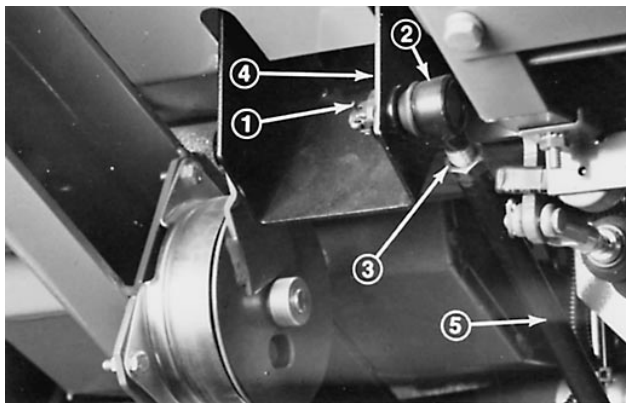

Figure 72
2. Remove the cotter pin and slotted nut from the ball joint at the traction pedal (Fig. 72). Disconnect the ball joint from the traction pedal.